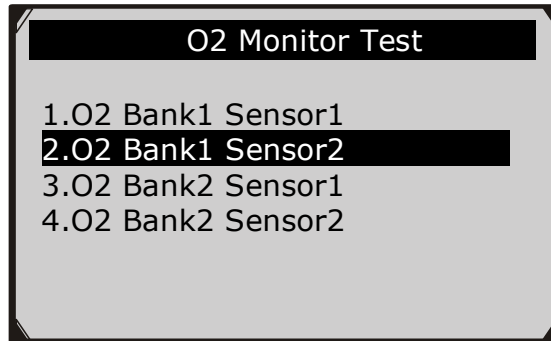

Figure 6.24
- 3) Use the **UP/DOWN** scroll button to select O2 sensor from **O2 Monitor Test** menu and press the **OK** button. (Figure 6.24)